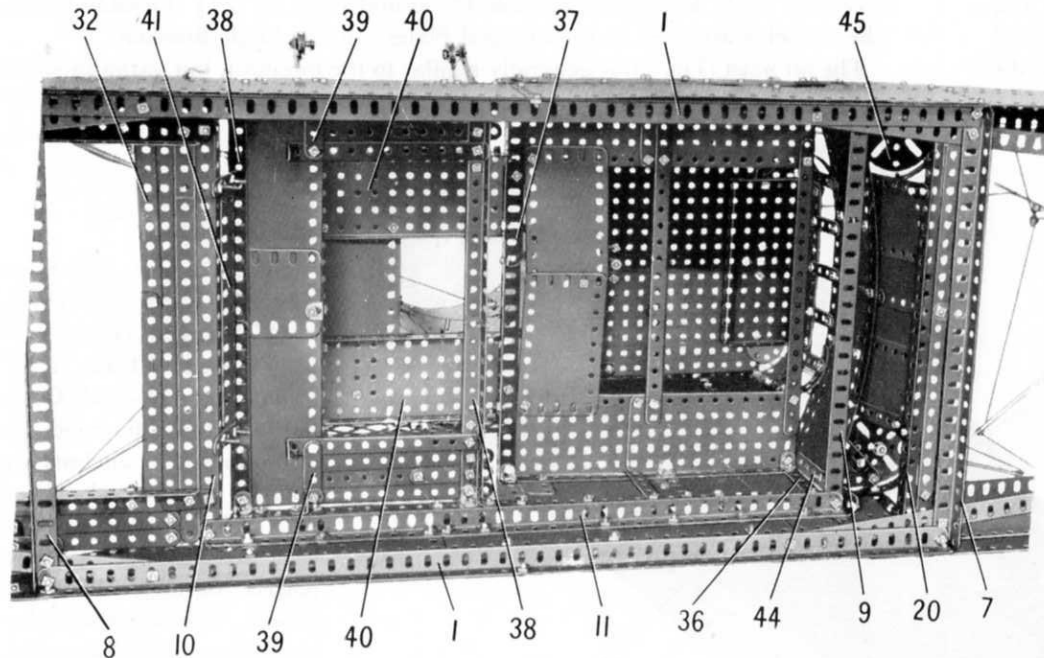

FIG. 5 This view shows the superstructure as seen from inside the hull, and the bracing girders that strengthen the hull amidships
The lower section of the plating on each side of the hull consists of a  $9\frac{1}{2} \times 2\frac{1}{2}$  Strip Plate and six  $12\frac{1}{2} \times 2\frac{1}{2}$  Strip Plates bolted together. These Plates are strengthened along their lower edges by  $12\frac{1}{2}$  Strips at the bow and the stern, and by a  $24\frac{1}{2}$  Angle Girder (1) (Fig. 5) amidships. The Strip Plates amidships are
The sides of the hull are connected by two  $12\frac{1}{2}$ " Angle Girders (7) and (8) (Fig. 5) and by similar Girders (9) and (10) bolted to the ends of  $18\frac{1}{2}$ " Angle Girders (11). Two  $18\frac{1}{2}$ " Angle Girders fixed to the Girders (1) and (8) are supported at their rear ends by a  $9\frac{1}{2}$ " Angle Girder (12), which is attached to the sides of the hull by Angle Brackets. Two  $24\frac{1}{2}$ " Angle Girders are bolted to the Girders (1) and (7), and to a  $9\frac{1}{2}$ " Angle Girder (13) that is connected to the hull by Angle Brackets.
A  $7\frac{1}{2}$ " Strip (17), with a  $5\frac{1}{2}$ " Angle Girder bolted centrally to it, is attached to the strip (16) by two Fishplates. A  $12\frac{1}{2}$ " Flat Girder (18) on each side is supported by the Strip (17), and its rear end is joined by a 2" Flat Girder to a further  $12\frac{1}{2}$ " Flat Girder (19). The front end of the latter part is connected to the side of the hull by an Angle Bracket, and the rear end is supported by a  $12\frac{1}{2}$ " Angle Girder (20) (Fig. 5), which also is fixed to Angle Brackets. Two  $12\frac{1}{2}$ " Strips are bolted across the Flat Girders (19) in front of the Angle Girder (20).
The top edges of these Plates are strengthened by two  $5\frac{1}{2}$ " Strips, and the front edge of the  $4\frac{1}{2}$ "  $\times$   $2\frac{1}{2}$ " Flexible Plate is braced by a vertical  $7\frac{1}{2}$ " Strip (36) (Fig. 5). A  $5\frac{1}{2}$ "  $\times$   $2\frac{1}{2}$ " and a  $4\frac{1}{2}$ "  $\times$   $2\frac{1}{2}$ " Flat Plate on each side are attached by Angle Brackets to the strips (33). The Flat Plates are connected across by two  $9\frac{1}{2}$ " Strips, two  $4\frac{1}{2}$ "  $\times$   $2\frac{1}{2}$ " Flexible Plates, and a built-up girder (37) made from a  $7\frac{1}{2}$ " and a  $5\frac{1}{2}$ " Angle Girder overlapped two holes. The rails on each side are  $5\frac{1}{2}$ " and  $3\frac{1}{2}$ " Strips bolted to the top ends of the Strips (35) and (36) and to a Semi-Circular Plate at the rear.
A  $5\frac{1}{2}$ "  $\times$   $2\frac{1}{2}$ " Flanged Plate (40) on each side is bolted to the girder (37) and these are connected at their rear ends by *one half of a Hinged Flat Plate* (Fig. 5). A  $5\frac{1}{2}$ " Braced Girder is fixed to the outer flange of each Flanged Plate, and two  $4\frac{1}{2}$ "  $\times$   $2\frac{1}{2}$ " Flexible Plates overlapped two holes are bolted to the rear flanges. The lower edges of the Flexible Plates are strengthened by two  $4\frac{1}{2}$ " Strips. A  $7\frac{1}{2}$ "